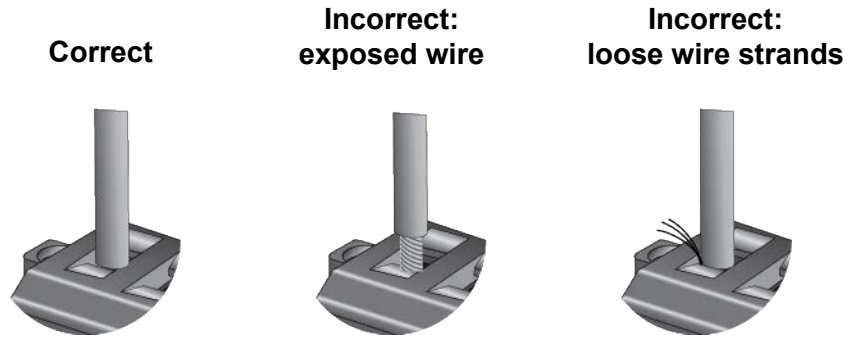

Figure 50. Verifying the Wires on the ALARM IN / ALARM OUT Plug
8. Verify that there are no exposed wires or loose wire strands. Refer to Figure 50 on page 104.